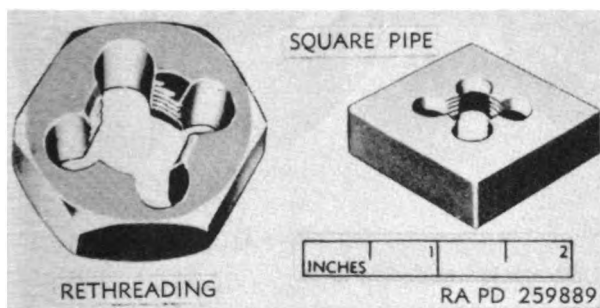
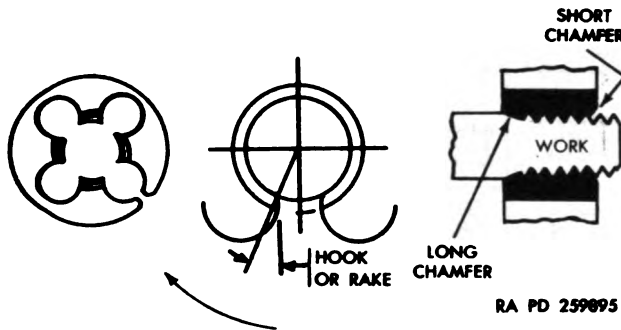

Figure 268. Types of solid dies.
Figure 274. Die chamfers.
- (1) *Square pipe die.* The square pipe die (fig. 268) will cut American Standard Pipe Thread only. It is issued in sizes that will cut threads on pipe from $\frac{1}{8}$ -27 to 3-8.
- (2) *Rethreading dies.* A rethreading die (fig. 268) is used principally for dressing over bruised or rusty threads on screws and bolts. However, it may be used for cutting occasional new threads. It is available in a variety of sizes for rethreading American Standard Coarse and Fine threads. These dies are usually hexagon in shape and can be turned with a socket, box, open-end, or any wrench that will fit. Rethreading dies are available in sets of 6, 10, 14, and 28 assorted sizes in a case.
A solid die (fig. 268) is basically a nut in which flutes have been machined at right angles to the threads, and which has been hardened to provide cutting edges. The round or button die (fig. 269) is actually an adjustable split nut. Two-piece dies (fig. 269) are machined separately. The number of threads in a die is much less than on a tap and the flutes have more of an exit for the escape of the chips of metal. A short chamfer on a die (fig. 274) is used for threading close to a shoulder. A long